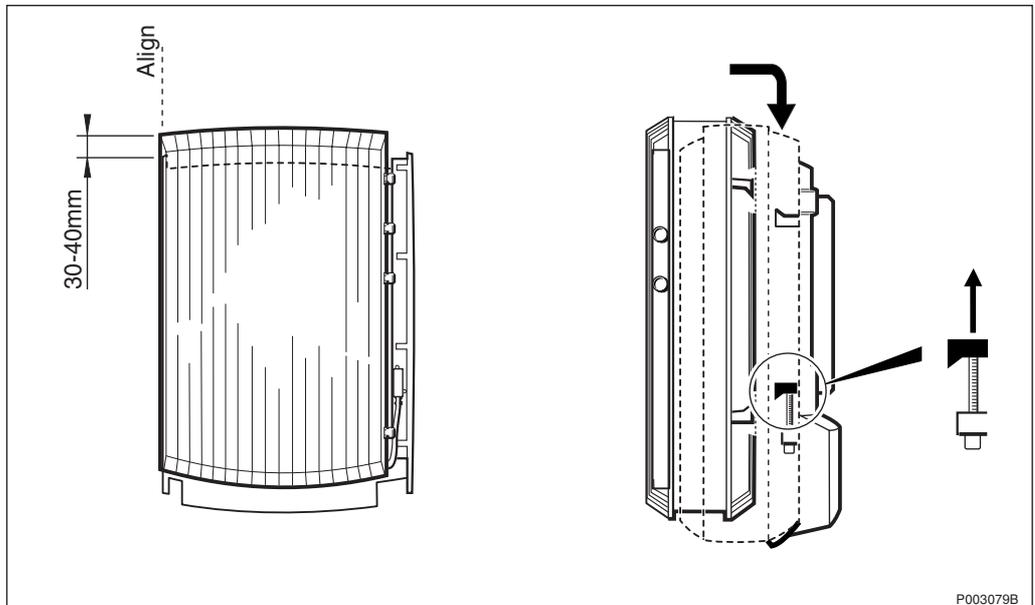

Figure 208 Hooking-on the cabinet
17. Facilitate the mounting of the cabinet by aiming for the left side of the cabinet. Start by holding the cabinet a few centimeters above the mounting base. Make sure that the hooks are according to *Figure 208 on page 184*.